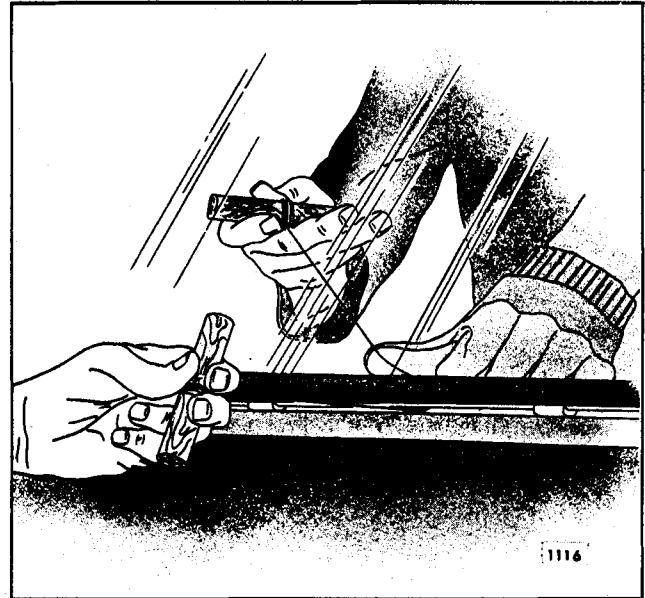

Fig. 4-1-Cutting Adhesive Caulk Material
material at edge of glass; then, secure that end of wire to another wood handle (Fig. 4-1).
- With aid of helper, carefully cut (pull wire) through caulk material around entire perimeter of window. If "short method" will be used to install new glass, hold wire close to inside plane of glass to prevent cutting an excessive amount of adhesive caulking from window opening. Keep tension on wire throughout cutting operation to prevent wire from kinking and breaking (Fig. 4-1).